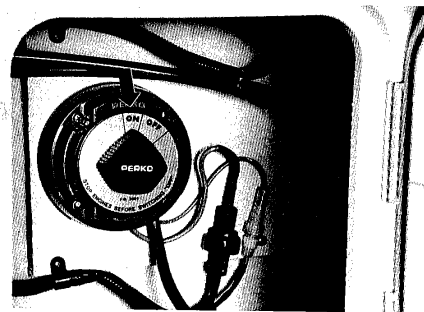

Figure 22
5. Put the battery main switch in the "On" position. See figure 22. The battery main switch is in the port battery compartment.